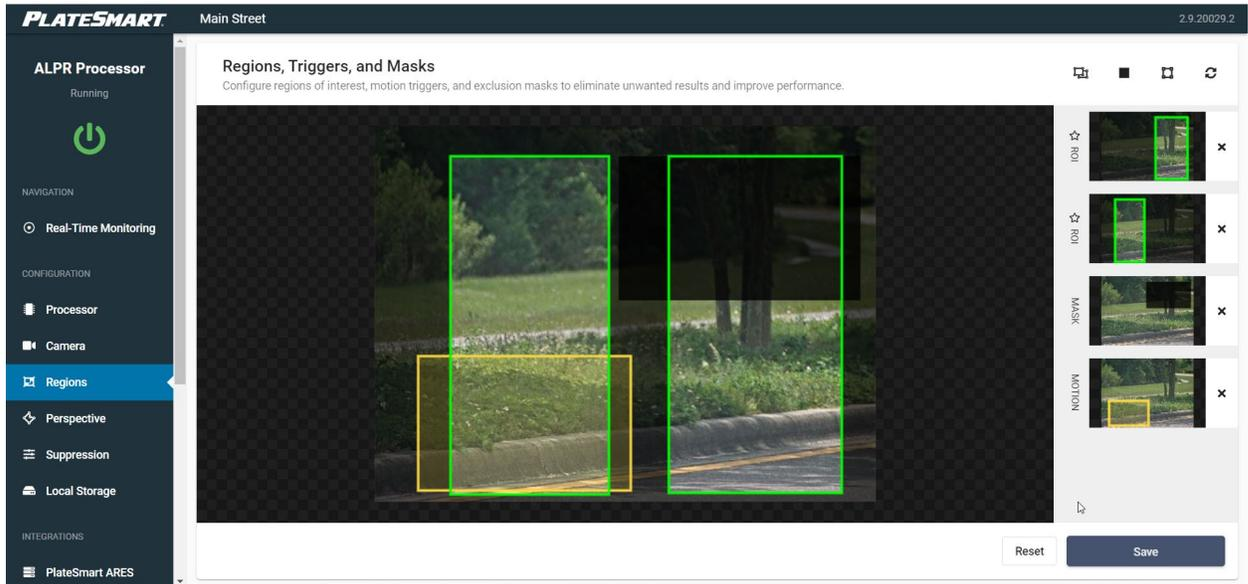

Figure 7
6. All regions are drawn as rectangles (Figure 7 on page 16). Click on a corner of the area you want to affect and drag until the rectangular area covers the area you want to affect.